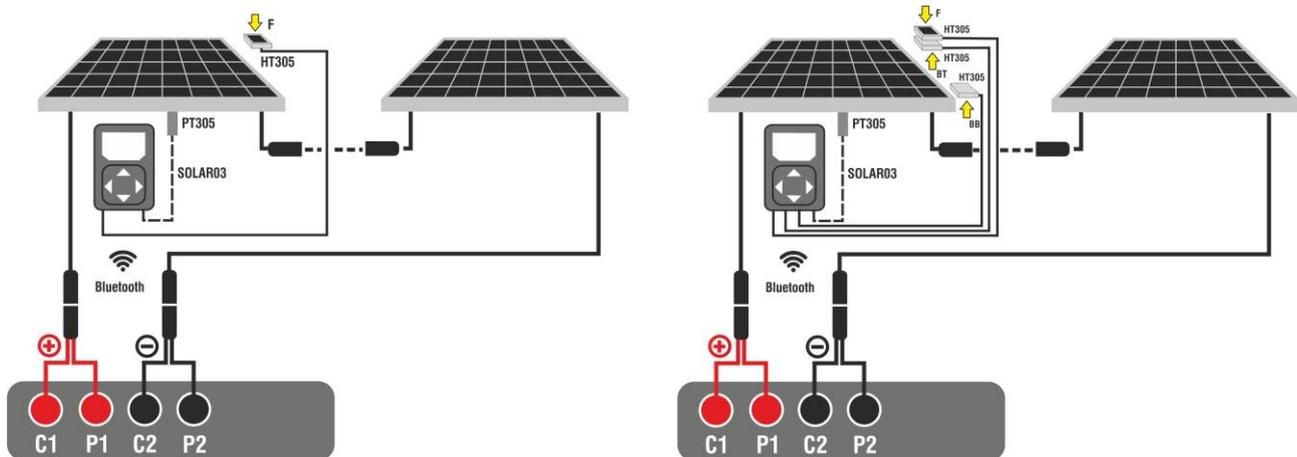

Fig. 53: Connection with remote unit SOLAR03 on Monofacial and Bifacial modules
3. Connect the instrument and the SOLAR03 remote unit to the module/string being tested as shown in Fig. 53. In detail:
- **In case of Bifacial modules**→, position the **three HT305 reference cells** on the front surface of module (**F**), on the top back section (**B T=BackTop**) and on the bottom back section (**BB=BackBottom**) of the module. Connect the front reference cell (F) to input "INP1", BT reference cell to input "INP2", BB reference cell to input "INP3" and **possibly** the temperature probe **PT305** to input "INP4" of the remote unit.
14. Bring the remote unit close to the modules and connect the irradiance/temperature probes as shown in Fig. 53. **As the recording has already been activated on the SOLAR03 remote control unit, it is no longer necessary to maintain the Bluetooth connection.** Maintaining the connection will only allow to immediately obtain the outcome of the test without waiting for the measuring campaign to be completed.